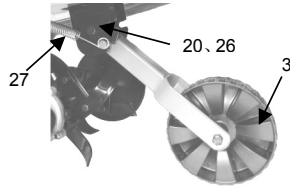

Figure 12
10. Refer to figure 12 to install the Cable bandage.